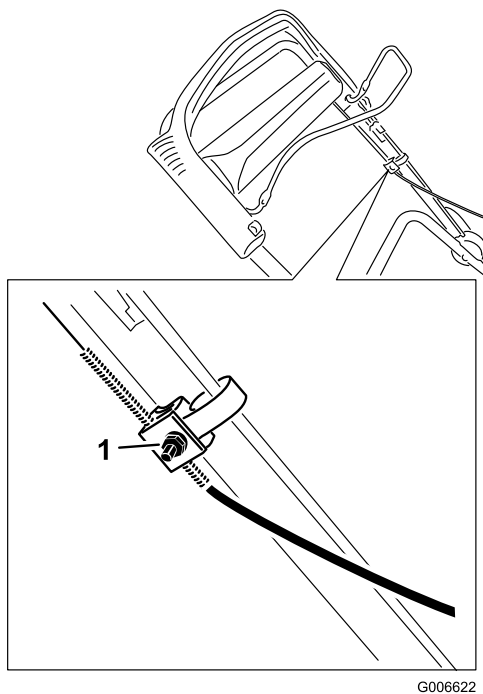

Figure 28
3. Loosen the nut on the cable mount (Figure 28).